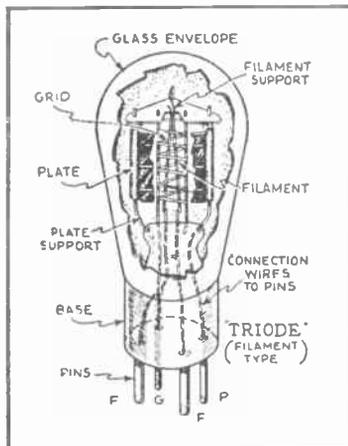

Fig. 1. An exploded view of a filament type tube
**Shorted Tubes** are often the cause for "no reception." As you will see from Figs. 1 and 2, there are other parts (known as elements) in the tube besides the filament. One part is called the plate, and there may be one or more grids. When any of these parts "short" (touch each other) the tube no longer works correctly.